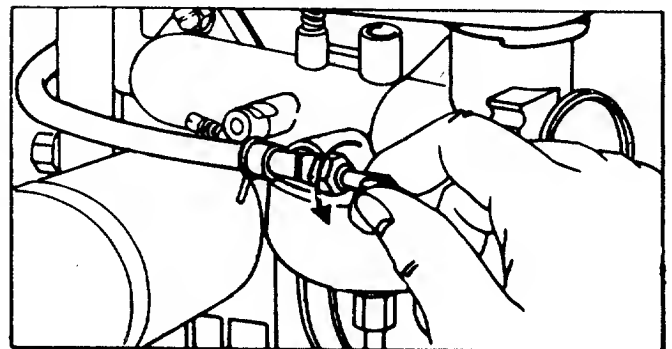

FIGURE 18. FUEL SHUT-OFF VALVE
2. Open the fuel shut-off valve (turn counter-clockwise). See figure 18.